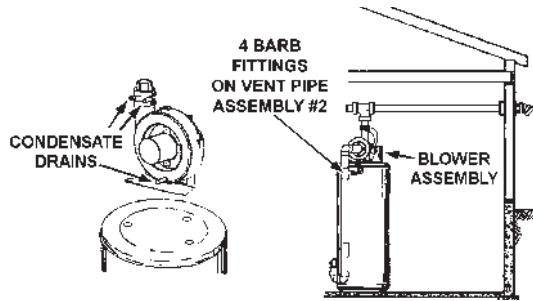
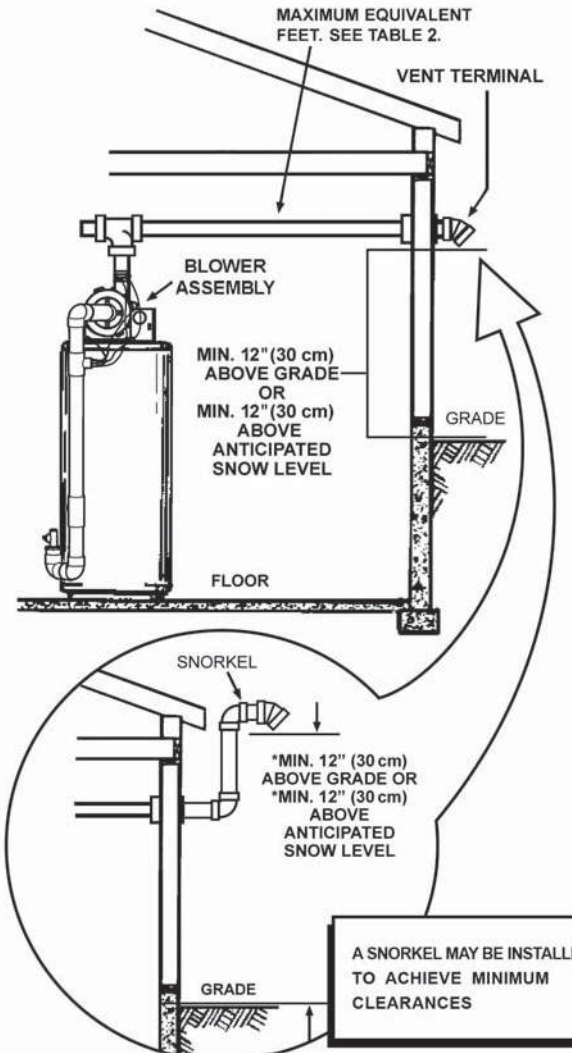
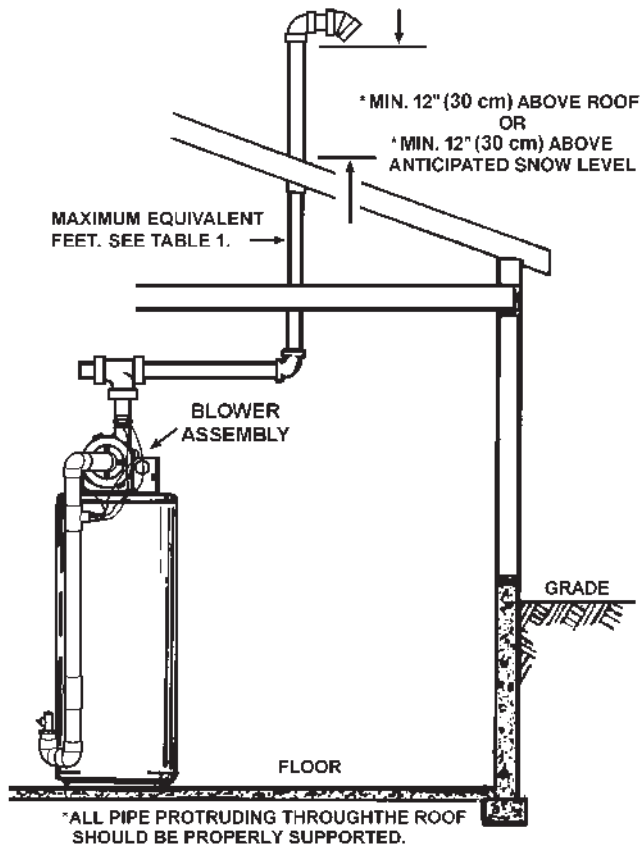

Figure 17. Blower Assembly Condensate Drains and Barb Fittings
Figure 19. Sidewall Vent Installation Snow Clearances
Figure 20. Through-the-Roof Vent Installation
Note: There will be some installations where condensate will be formed in the horizontal runs of the vent system. This condensate will run into the condensate boot attached to the blower and out the fitting. The water heater is shipped with condensate hose that attaches to the fitting on the condensate boot. No other Tee or fitting is required. See *Figure 17* (page 21), *Figure 19* (page 22), and *Figure 20* (page 23).
The blower discharge adapter is made to accept only straight sections of 2" pipe. To start, a minimum of 2 inches (5.1 cm) of 2" pipe must be attached to the blower discharge. See *Figure 17* (page 21).
The first step is to determine where the vent pipe will terminate. See *Figure 26* (page 27), *Figure 19* (page 22), and *Figure 20* (page 23). The vent may terminate through a sidewall as shown in *Figure 19* (page 22) or through the roof as shown in *Figure 20* (page 23).
3. Condensate drains from three locations on blower assembly. See *Figure 17*. One flexible hose runs from bottom of blower housing; two run from the ports of rubber connector at the outlet of blower. All these three condensate hoses are connected to barb fittings at vent pipe assembly #2. The hose from bottom of blower housing is clamped by two clamps and the two hoses from rubber connector are harnessed by another clamp. Make sure there is no kink or twist.
If necessary to achieve the 12" minimum clearance above the highest anticipated snow level, install a snorkel as shown in bottom portion of *Figure 20*.
Note: Vent Termination must extend a minimum of 12 inches (30 cm) above roof or 12 inches (30 cm) above the anticipated snow level to prevent blockage of the vent termination, as shown in *Figure 19* and *Figure 20* (page 22).